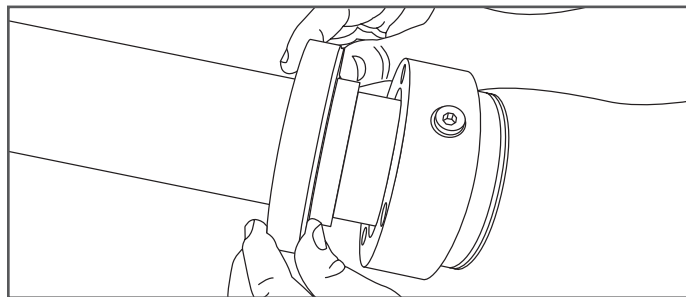

Figure 8-5
5. Once the back section is pried apart from the middle section of DoubleTrac® fitting, slide the back section far enough away to allow the middle section of DoubleTrac® fitting to slide back exposing the split rings (Figure 8-5).